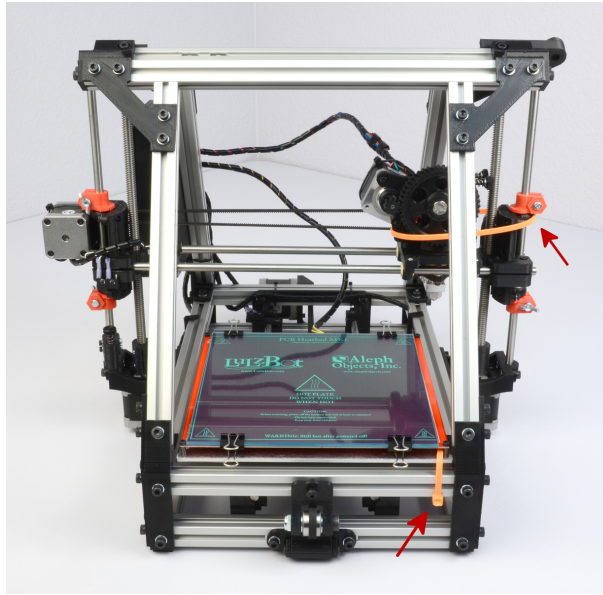

Figure 1.1: Orange Zip Ties
9. Using scissors or wire cutters, cut and remove the two ORANGE plastic zip ties (Fig. 1.1, page 12) . One zip tie is located on the bottom front of the printer on the print bed. The other zip tie is wrapped around the extruder carriage and X axis. Make sure to not cut any of the surrounding wires or belts.